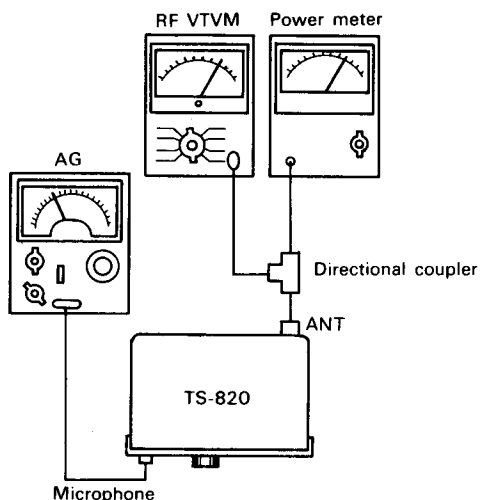

Fig. 35 Adjustment of carrier point
- 1) In **Fig. 35**, connect AG to MIC terminal and apply an input of 1500 Hz at 5 mV.